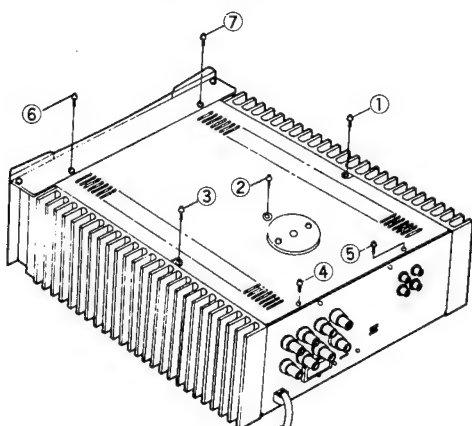

Fig. 2
1. Remove screws ① to ⑦ in Fig. 2, and then remove the bottom cover.